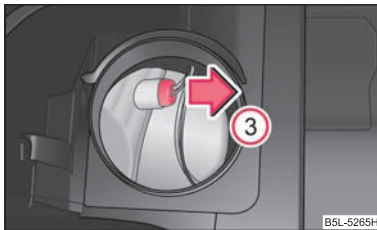

Fig. 195 Removing the fixture for the parking light (Xenon headlight)
- Pull out the fixture in direction of arrow ③ ⇒ fig. 195.